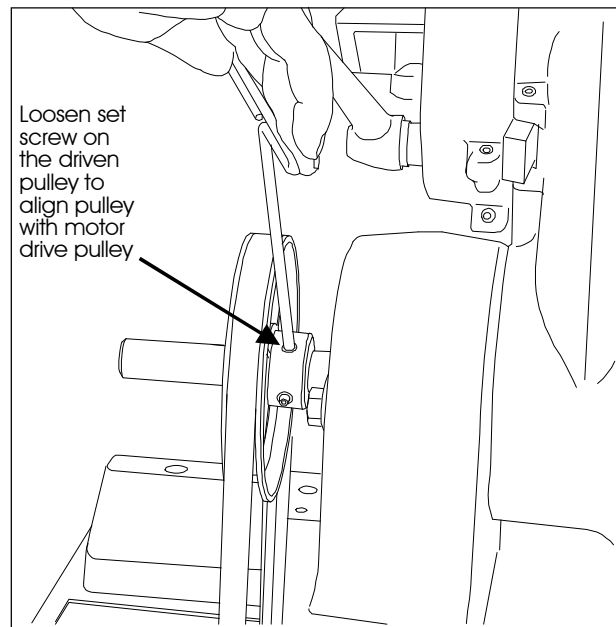

Figure 14: Aligning pulley with motor drive pulley.
12. Check alignment of pulley (23) and pulley (48). If necessary, loosen set screw (20) and adjust position of pulley (23) on shaft (40) so that the two pulleys are correctly aligned. (Refer to Figure 14.)
13. Install key (41) in key way on shaft (40). Install sleeve (44) over key (41).